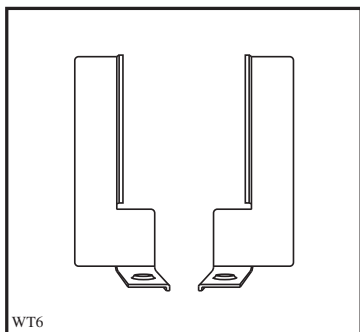

Fig 2b
- Place the relative metal fixing plates (fig. 2b/3b) and fix them with the included screws (A+B) both on the tumble dryer and on the upper corners.